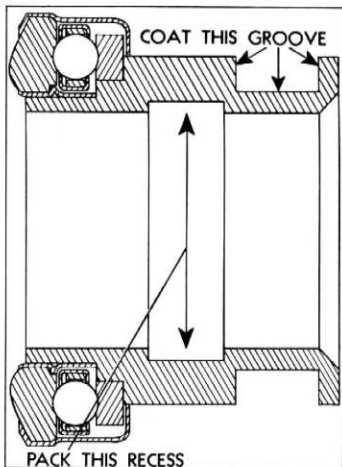

Fig. 139—Lubrication Points on Clutch Throwout Bearing
10. Lubricate the recess on the inside of the throwout bearing collar and coat the throwout fork groove with a small amount of high melting point grease (fig. 139).